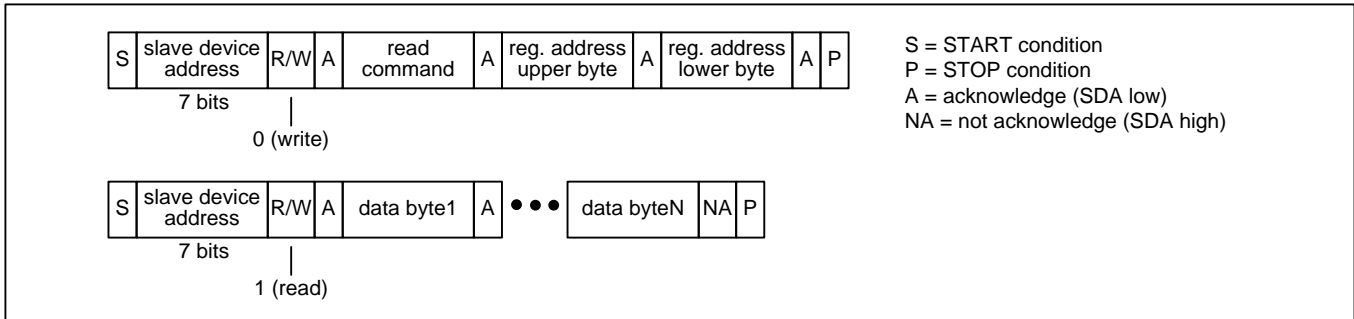
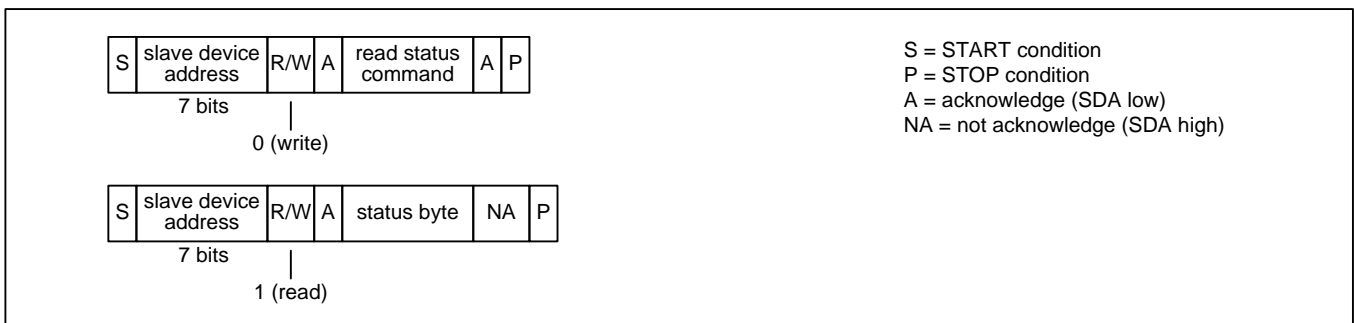

Figure 15 – I2C Read Transaction Functional Timing
Figure 18 – I2C EEPROM Read Status Transaction Functional Timing
**Read Transactions.** The device registers are accessible when  $EESEL=0$ . The internal EEPROM memory is accessible when  $EESEL=1$ . The bus master first does an I2C write to the device. In this transaction three bytes are written: the SPI Read command (see Table 4), the upper byte of the register address, and the lower byte of the register address. The bus master then does an I2C read. During each acknowledge (A) bit the device fetches data from the read address and then increments the read address. The device then transmits the data to the bus master during the next 8 SCL cycles. The bus master terminates the read with a not-acknowledge (NA) followed by a STOP condition (P). See Figure 15. Note: If the I2C write is separated from the I2C read by other I2C transactions then the device only outputs the data value from the first address and repeats that same data value after each acknowledge (A) generated by the bus master.
**EEPROM Read Status.** The bus master first does an I2C write to transmit the SPI Read Status command (see Table 4) to the device. The bus master then does an I2C read to get the status byte. In this byte, the least significant bit is set to 1 if the transfer is still in progress and 0 if the transfer has completed. See Figure 18.
Note: In Figure 15 through Figure 18, a STOP condition (P) immediately followed by a START condition (S) can be replaced by a repeated START condition (Sr) as described in the I2C specification.